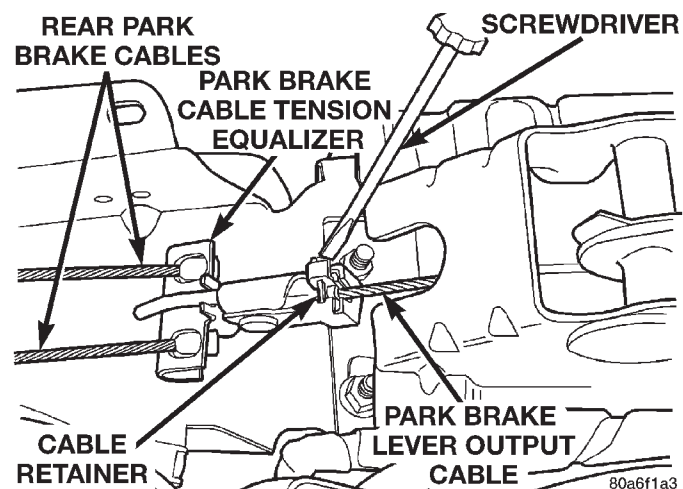

Fig. 191 Output Cable To Equalizer RetainingClip
- (9) Using a screwdriver (Fig. 191) unlatch the park brake output cable retainer. Then remove cable retainer from park brake cable tension equalizer.